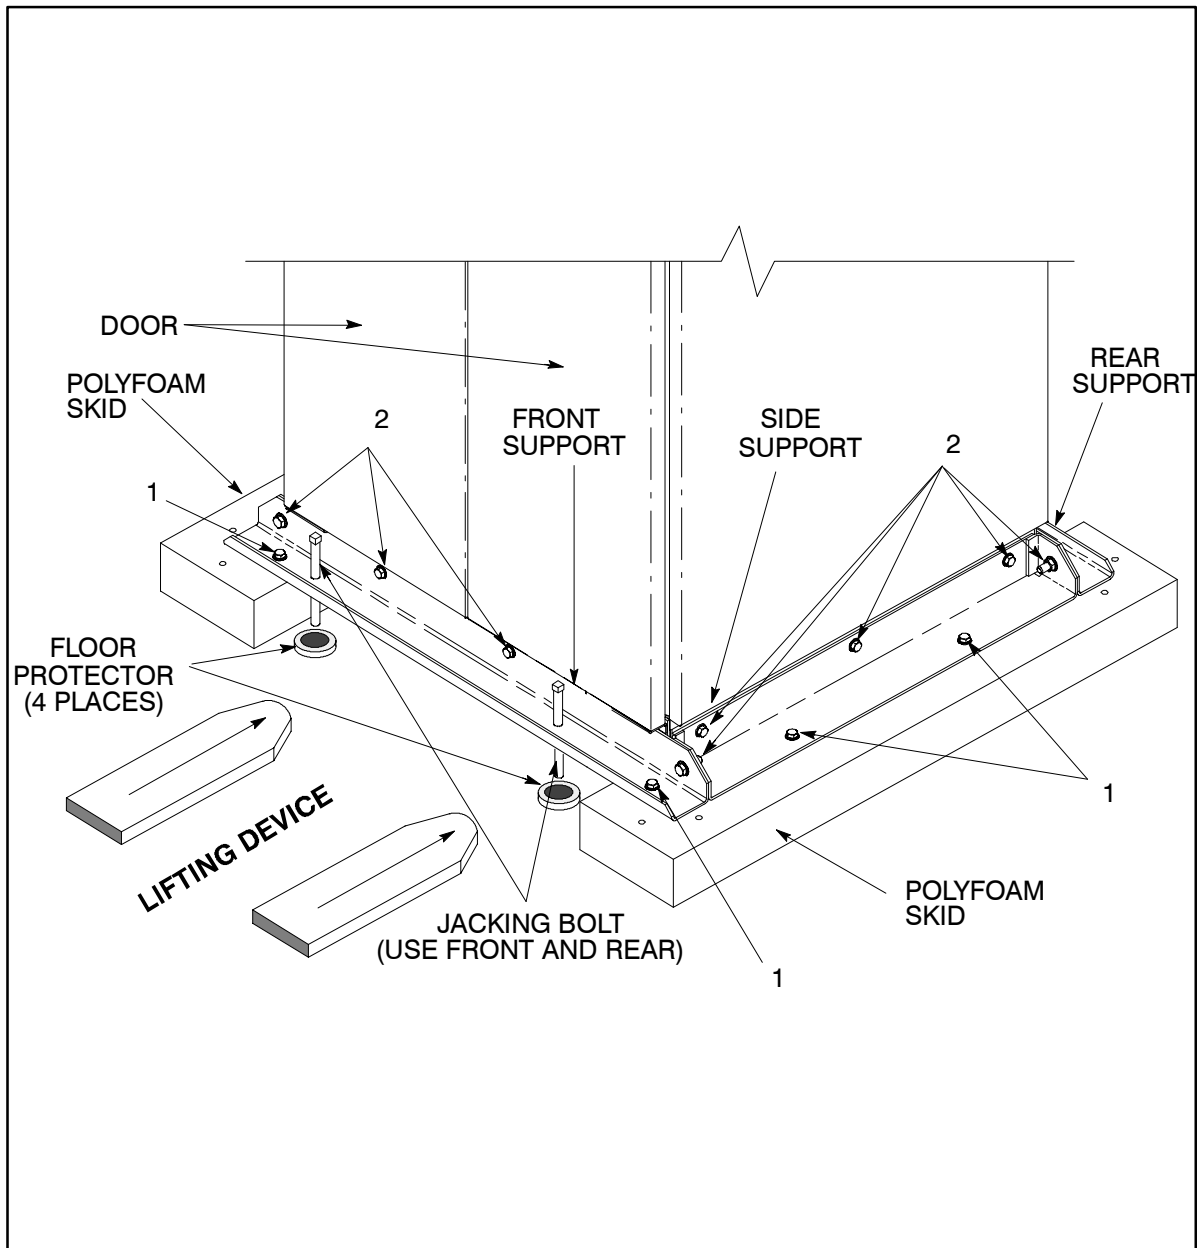

Figure 4. Detail of Shipping Supports
3. Loosen, but do not remove the hardware holding the plywood/polyfoam skids to the front and rear supports (labeled “1” in Figure 4 – 8 places).
- 8.** Remove the hardware labeled “2” in Figure 4, holding the front, rear and side supports to the module base (14 places). Discard or recycle the hardware and support brackets in a responsible manner.